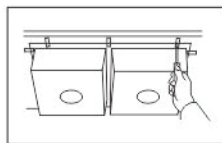

FIGURE 5
8. Position and align sink over the countertop opening and press sink onto countertop. Turn bent end of mounting bracket to snug over the sink rim.(FIGURE 5)